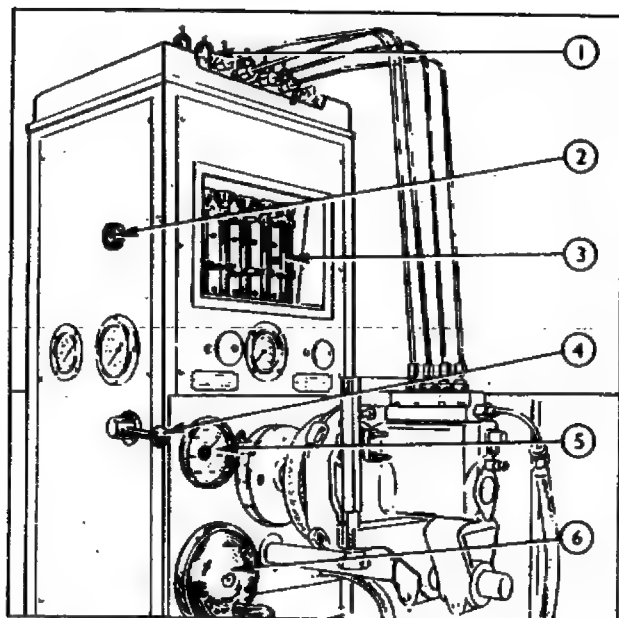

Fig. 35 1 Master Injectors
1. Connect the test equipment injector pipes to the master injectors and the injection pump delivery valve holders (see Fig. 35).